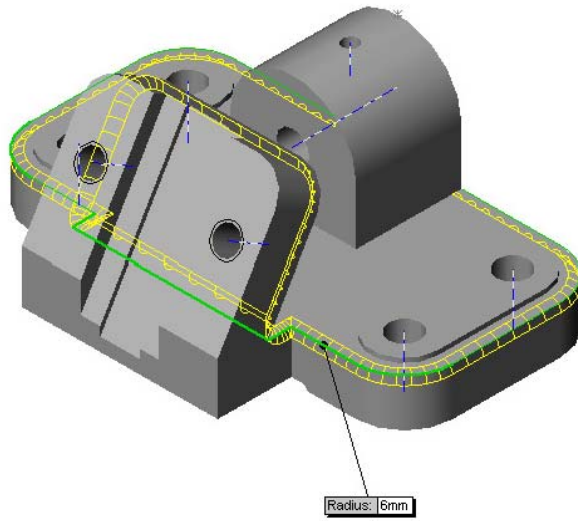
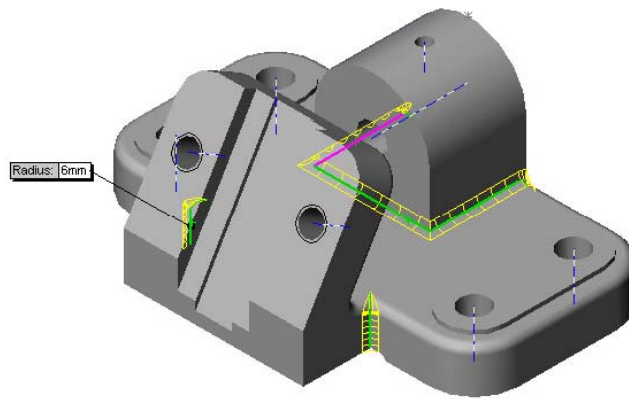
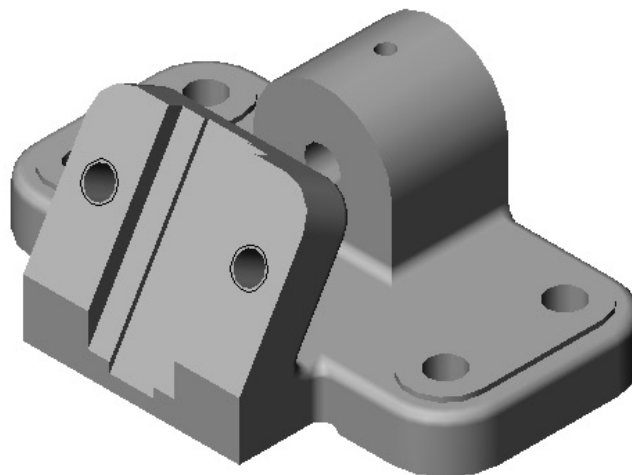

Figure 37 Base edge fillet.
Figure 38 Slot body fillet.
Figure 39 Vertical bearing support model
50. Add **fillets** as shown in Figure 37 and Figure 38 by using **Fillet**  on Feature toolbar. Use fillet radius as **6 mm**. Final model for Vertical Bearing Support is shown in Figure 39.